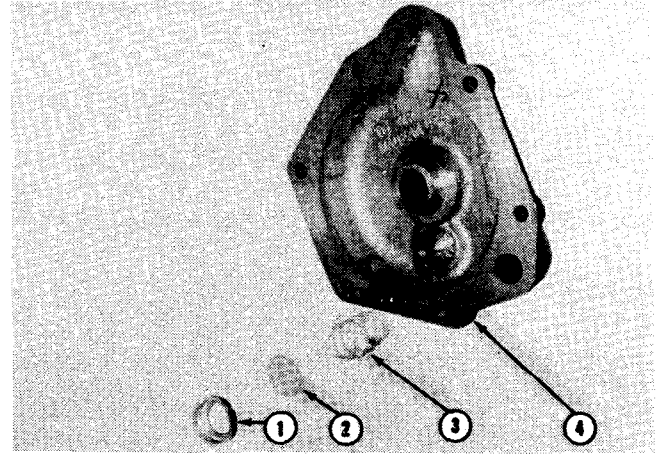

Fig. 7-3, (N10730). By-pass valve
1. Remove all pipe plugs and fittings from filter head. Remove filter by-pass valve retainer (1, Fig. 7-3) with a standard puller, relief valve (2) and spring (3) from filter head (1), if necessary after Step 3 above. Housing may remain in filter head. Clean housing and case in approved cleaning solvent and dry with compressed air.
4. If removed, insert filter by-pass valve spring (3, Fig. 7-3) (large end first) in filter head (4), position relief valve (2) in bore coated side out over spring (3) and secure with retainer (1), press retainer in bore flush with head.